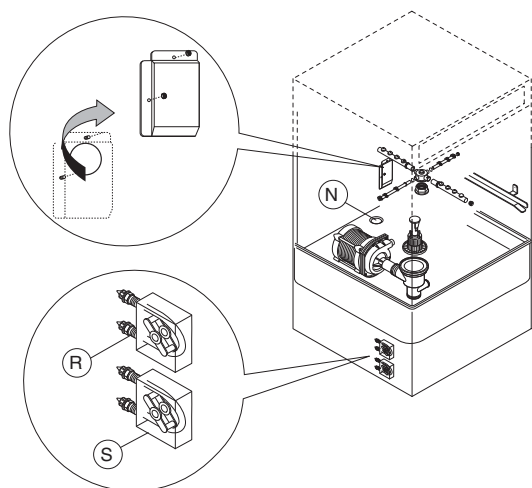

Figure 12
**1. Dishwasher with incorporated detergent dispenser pump (Figure 12)**
**2. Dishwashers with incorporated peristaltic rinse-aid dispenser pump (Figure 12).**